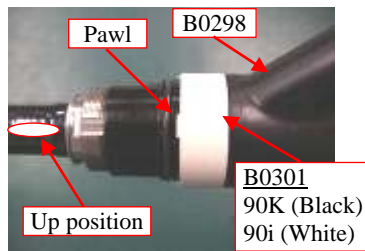

Fig.6-2-5
- 2) Attach the Colored Ring (B0301) to B0298 so that one of the pawl of B0301 become up position as shown in Fig.6-2-5.